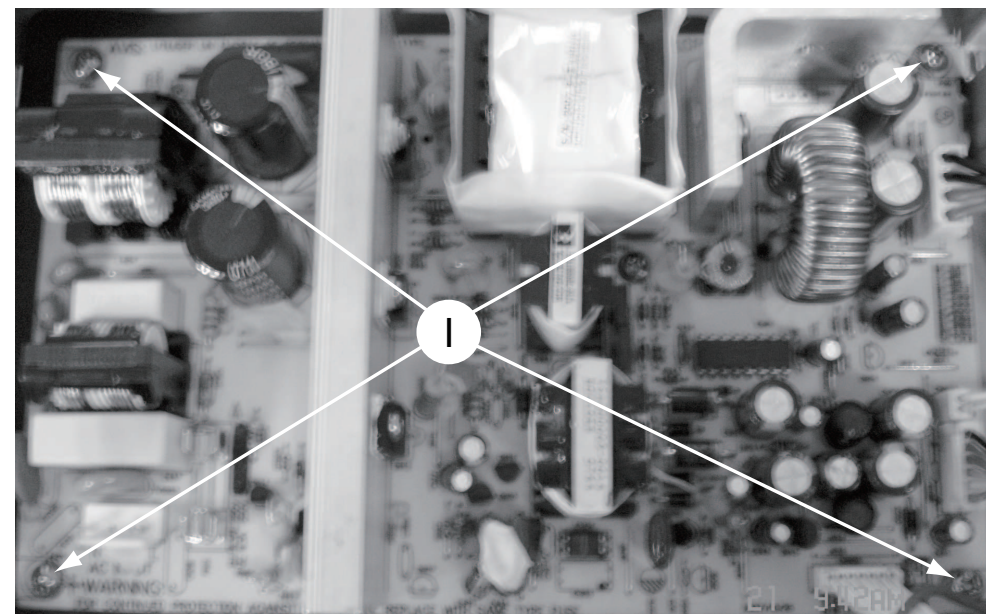

Figure 12
- 1) Loosen 4 screws " I " on the top of power board as shown in figure 12